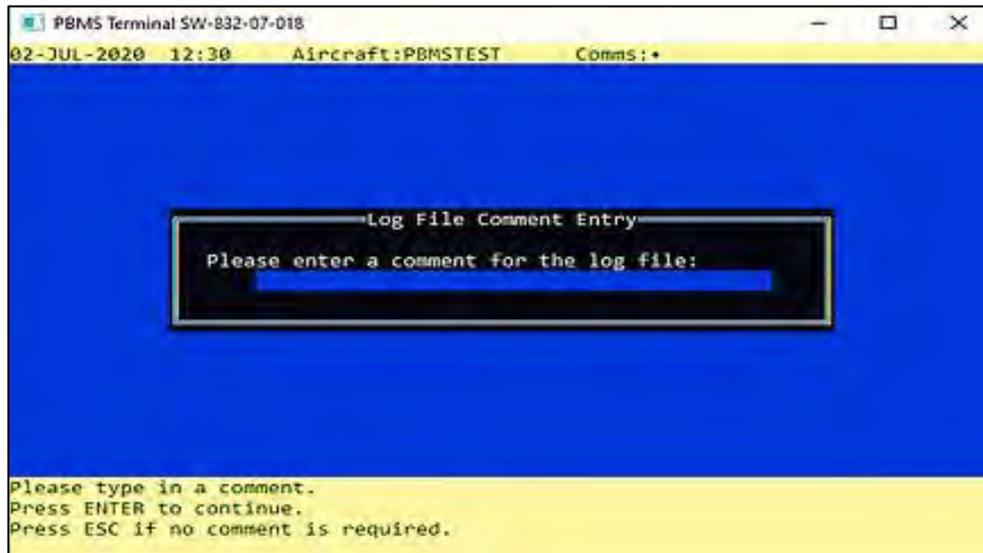

Figure 4-4 Log File comment
- (2) The PBMS Terminal will prompt you to enter an optional comment for the log file. After entering your comment (Blank Comments accepted), press <Enter>. (Ref Fig 4-4).